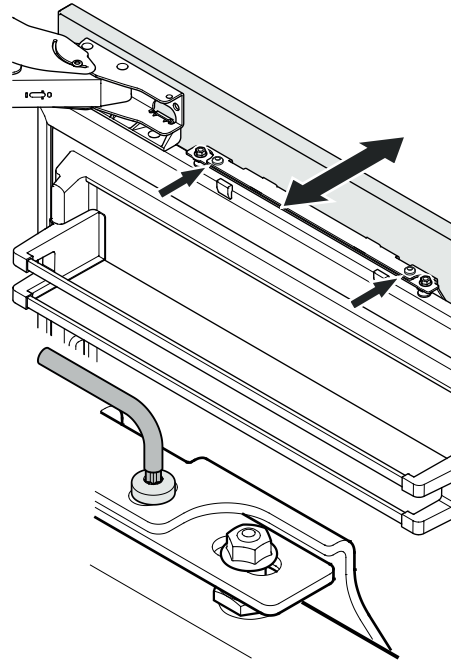

Figure 41
10. Loosen the three screws on the top of the attachment bracket, align the panel as shown in Figure 41 and tighten the screws. This can also be done with the lower attachment bracket.